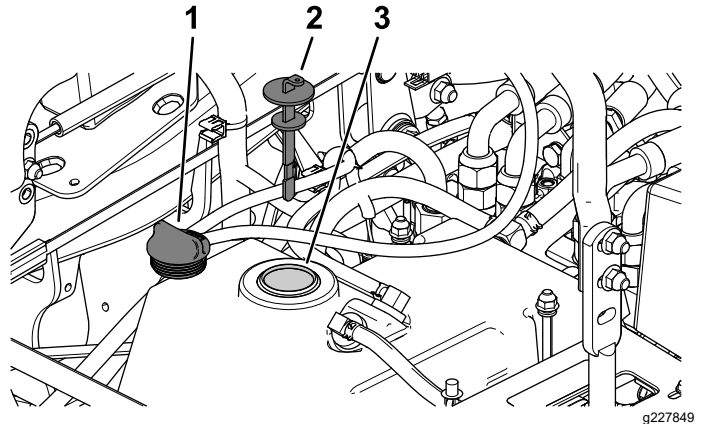

Figure 61
5. Remove the hydraulic-tank cap (Figure 61).
6. Remove the dipstick and wipe it with a clean rag (Figure 61).